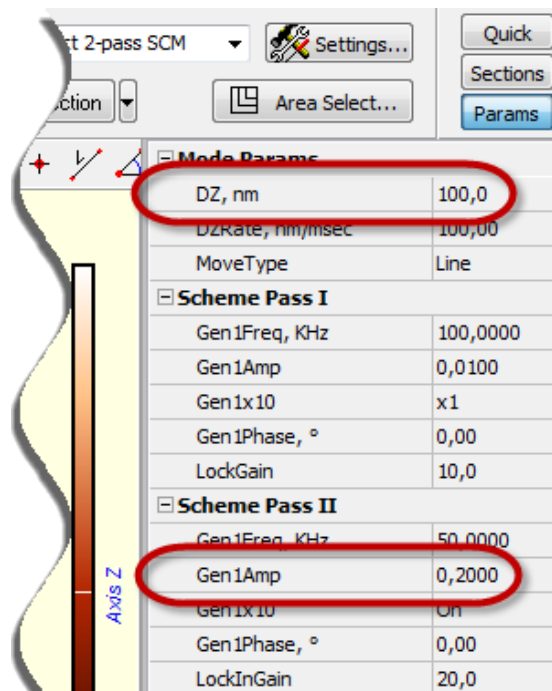

Fig. 9-28. Additional Parameters panel
2. Observe quality of the acquired image and vary the sample-probe distance. This needs modification of the **DZ** parameter in the **Mode Params** group (Fig. 9-28).
3. Observe quality of the acquired image and vary the generator output amplitude. This needs modification of the **Gen1Amp** parameter in the **Pass II** group (Fig. 9-28).